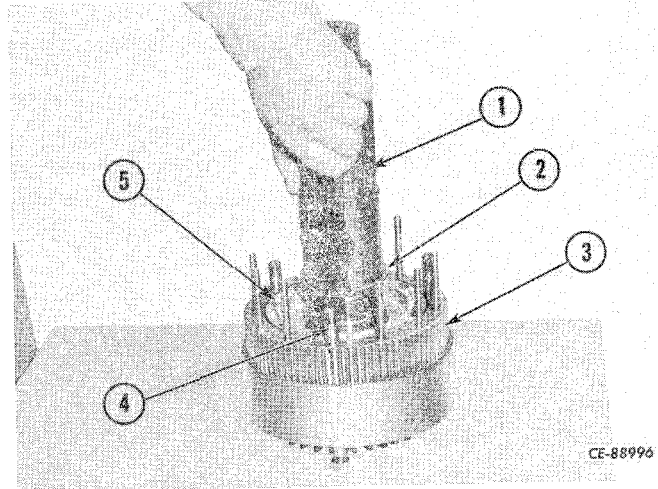

Figure 4-132
Install the studs (4, Fig. 4-132) through the backing plate and cylinder (3). Turn the clutch assembly over. Install new "O" rings on the piston (5) and install the piston in the cylinder.
Install the locating snap ring (2, Fig. 4-132) in the groove in the shaft (1).
Install washer in place of snap ring (2, Fig. 4-132).